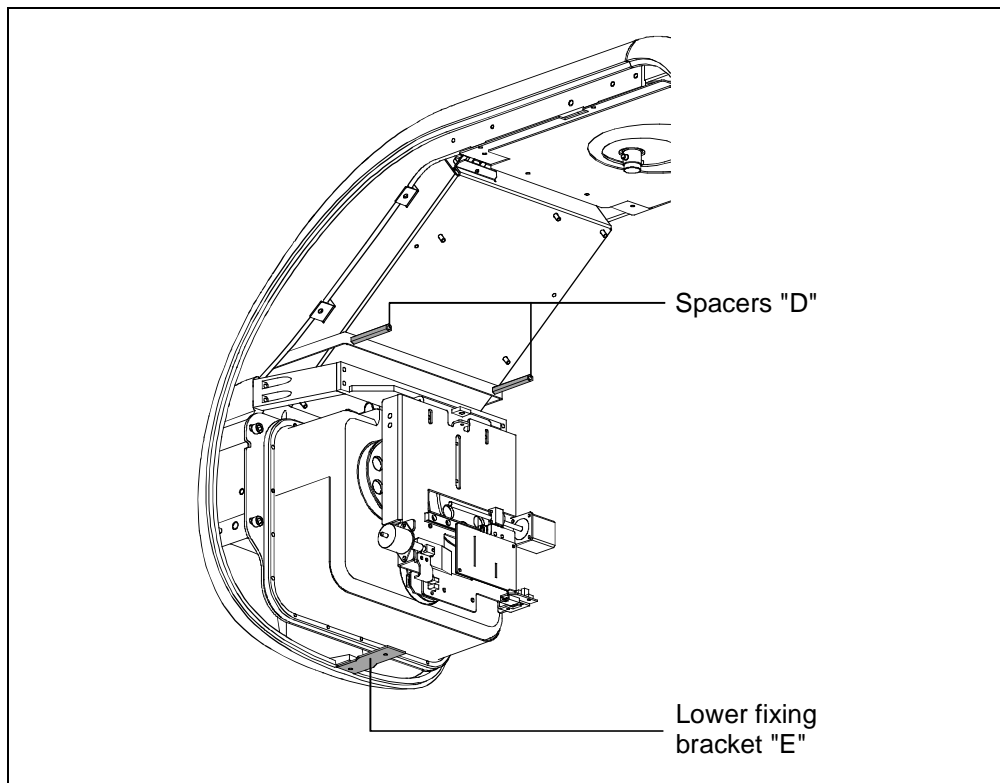

Figure 6-7
8. Remove the tubehead cover; remove the two spacers "D" and the lower fixing bracket "E" (Figure 6-7).